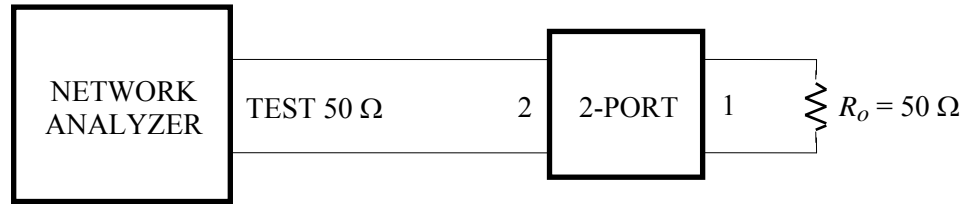

Figure 3. Circuit connection for s_{22} measurement.
- (1) Connect port 2 of your circuit to the cable from the signal divider as shown in Figure 3 below.